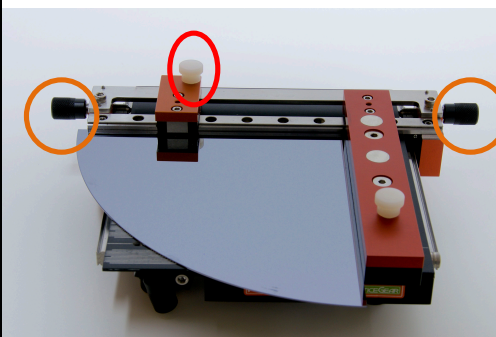

Figure 10. Wafer sample aligned against the vertical guide and sample slide.
14. Once the target is positioned, tighten the vertical guide locking screws (Figure 10-regions circled in orange)